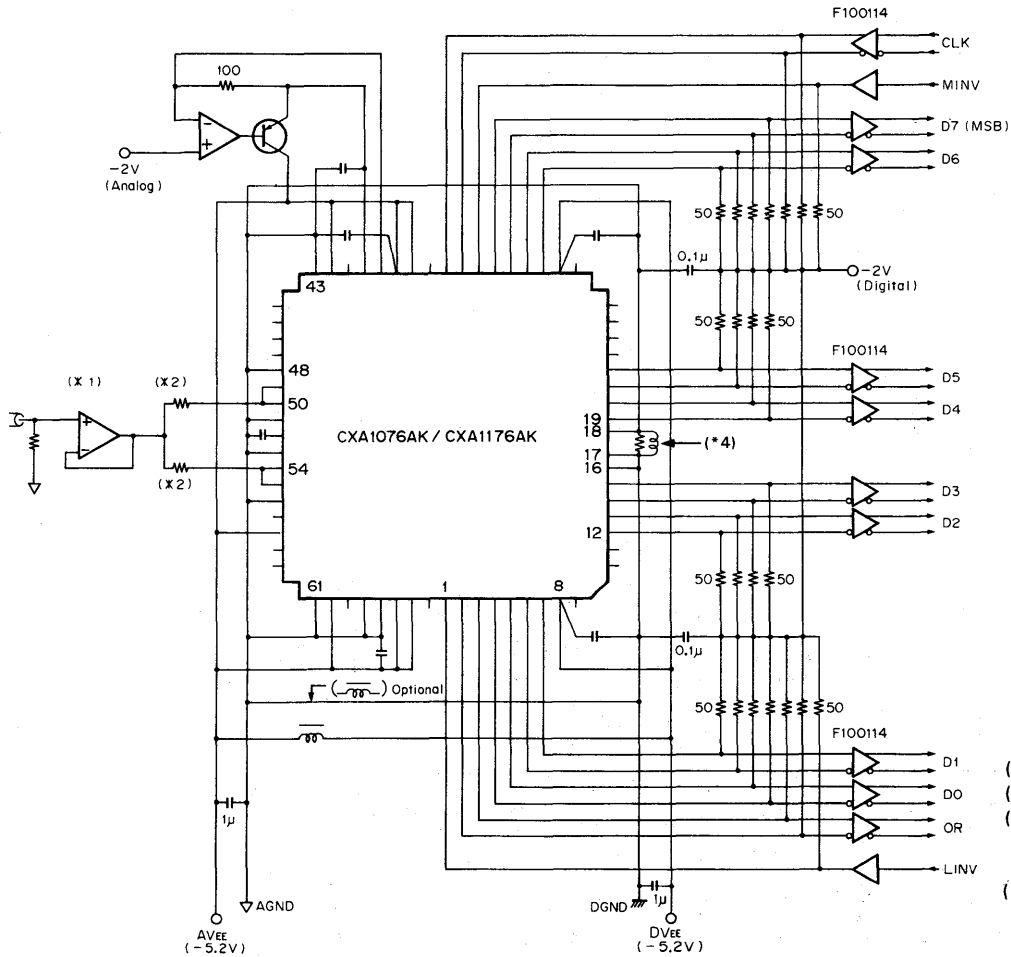

Fig. 3
- 7) As the analog input impedance of the device is capacitive, the driving amplifier occasionally falls into unstable condition and oscillates locally. This instability can be prevented with a resistor inserted in series between the output pin of the amplifier and V_{IN} pins of the device. The resistor is to be selected from 2 to 20 Ω. Separate input for V_{IN} as shown in an application circuit (Fig. 3) may give a good result.